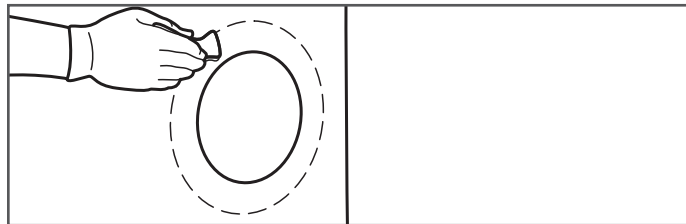

Figure 23-4
2. Sand 38mm around the throughput hole on interior and exterior of sump (Figure 23-4).